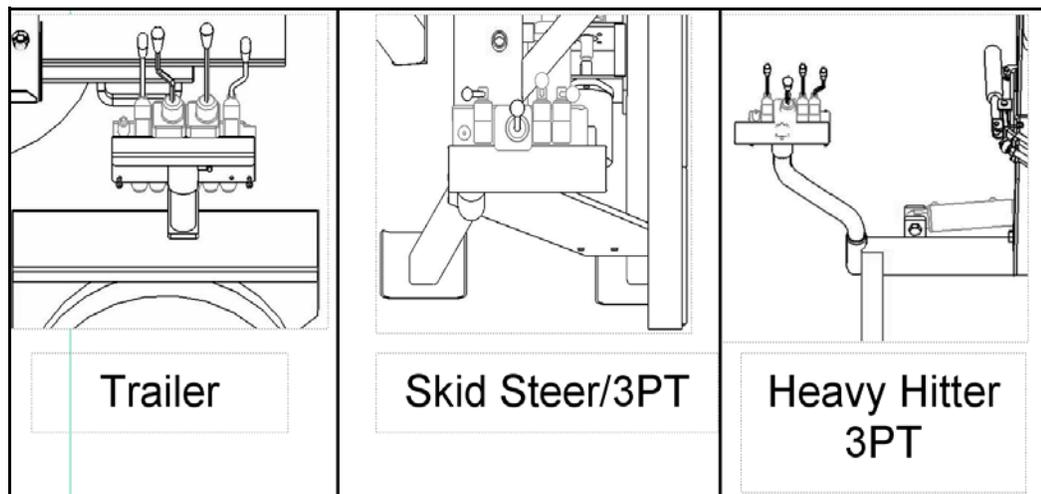

Figure 2.3 Hydraulic Valve Working Positions
- Hydraulic valve must be in the working positions (Figure 2.3). Failure to have valve positioned correctly will mean the orientation of the valve and instructional decal will be incorrect.